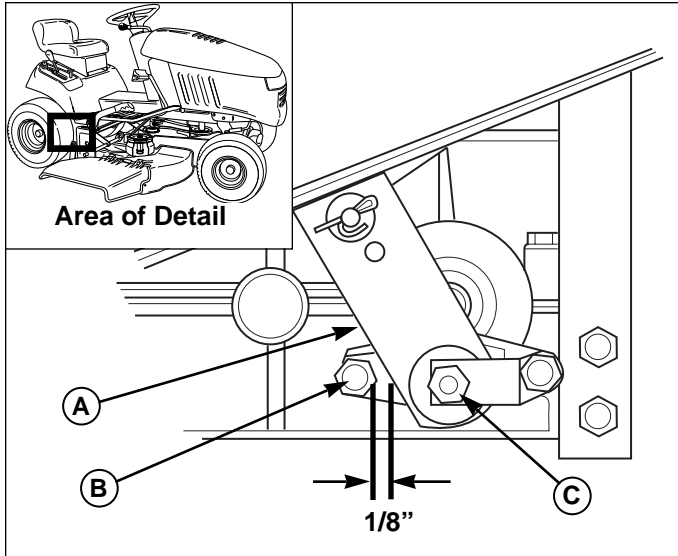
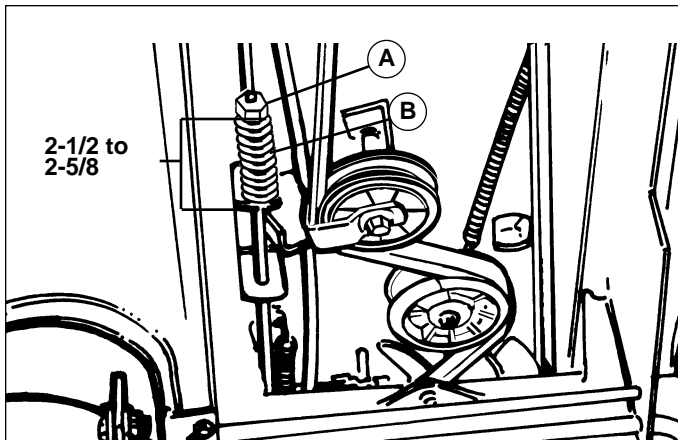

Figure 29. Brake Adjustment - Gear Models
Figure 30. Brake Spring Adjustment - Gear Models
2. See Figure 29. Move the brake cam lever (A) forward. There should be a 1/8" (32 mm) gap between the lever (A) and the stop (B) as shown.
3. To adjust clearance, turn nut (C) clockwise to decrease the gap or turn nut counterclockwise to increase the gap.
4. See Figure 30. Set the parking brake. Loosen or tighten adjustment nut (C) to achieve a 2-1/2" to 2-5/8" (6.35 cm to 6.67 cm) compressed spring length as shown.